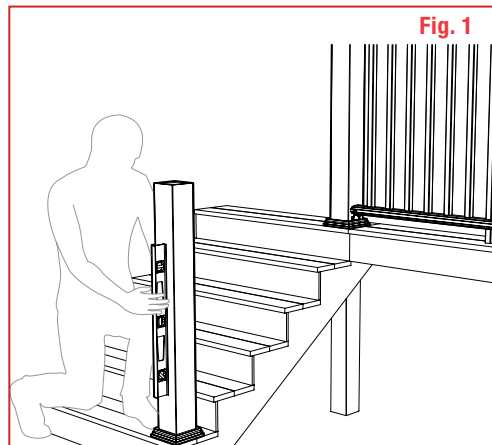

Fig. 1
- 1 Install and prepare posts or other mounting surfaces for Marquee Railing® installation. Ensure mounting surfaces are level and plumb. (Fig. 1) TAMKO recommends using Marquee Post Mount systems or wood posts covered with our matching Marquee Post Sleeve and Marquee Wood Post Spacers. It is acceptable for direct attachment of Marquee Railing® sections to conventional 4"x 4" or larger wood posts without use of Marquee Post Sleeves.
**NOTE:** Fit the Left or Right Multi Angle Bracket onto the rail at the desired angle from the end of rail to the first Baluster hole on both ends of the rail before cutting. Check end spacing, and shift the position of the rail before cutting if required. Ensure that the gap between posts and Balusters will not exceed 4". (**Fig. 1**)
- 1 Install and prepare posts or other mounting surfaces for the Marquee Railing® installation. Ensure mounting surfaces are level and plumb. (Fig. 1) TAMKO recommends using Marquee Post Mount systems or wood posts covered with our matching Marquee Post Sleeve and Marquee Wood Post Spacers. It is acceptable for direct attachment of Marquee Railing® sections to conventional 4" x 4" or larger wood posts without use of the Marquee Post Sleeves.
- 1 Attach the concrete surface plate to the bottom of the post mount member as shown using four of the supplied 2" coated hex bolts, 3/8" coated lock washers, and coated 3/8" hex nuts. (Fig. 1) Tighten nuts to 33 lb-ft using a torque wrench. Ensure that the hex bolt heads are firmly seated inside the surface plate channels.